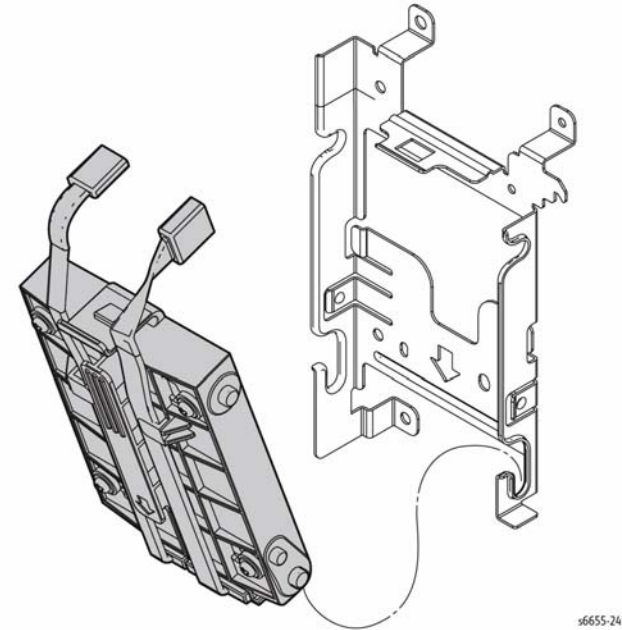

Figure 2 Separate the Hard Disk Drive from the Bracket
6. Release the latch on the Hard Disk Drive to separate the drive from the bracket (Figure 2).